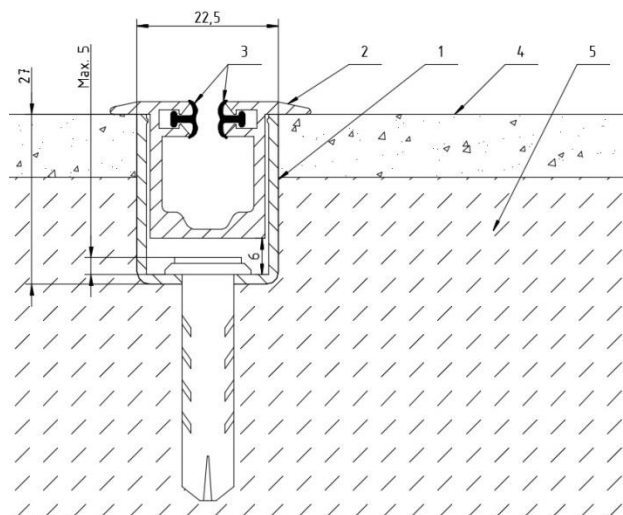

Fig. 3. Positioning of the mounting profile in window niche:
- Mechanical anchoring of the profile is acceptable in a way that the anchor doesn't protrude more than 4 ÷ 5 mm over the inner wall of the profile, Fig. 3.